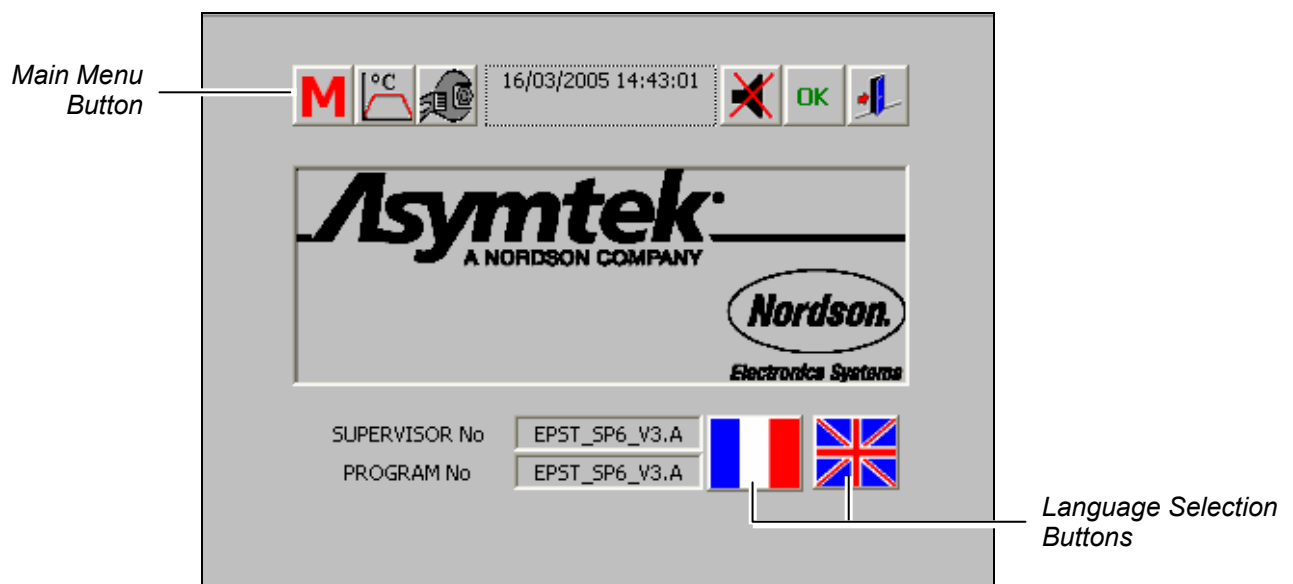

Figure 6-49 Banner Screen
1. On the Banner screen, select the language you prefer by clicking on the **French** or **English** flag (Figure 6-49). Next click on the **"M"** button to display the Main Menu.